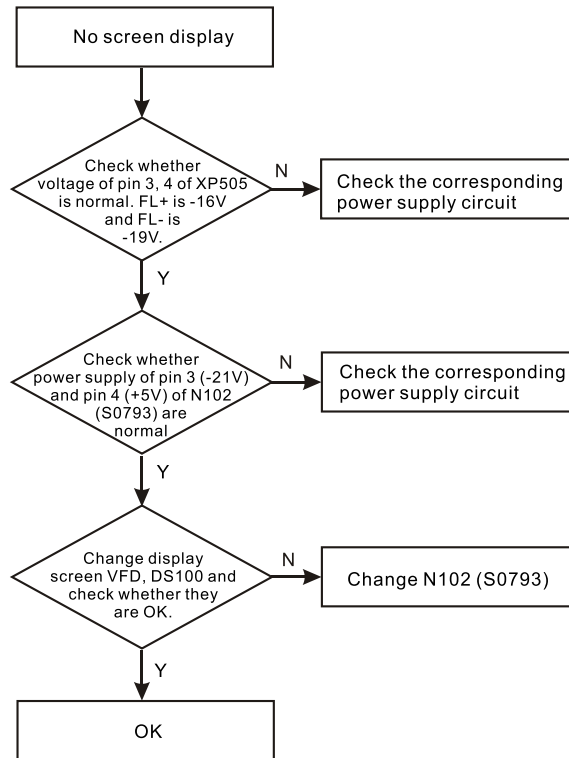

Figure 3.5.13.1 Troubleshooting flow chart for no screen display
3.5.13 Troubleshooting process for no screen display is shown as the following figure 3.5.13.1: